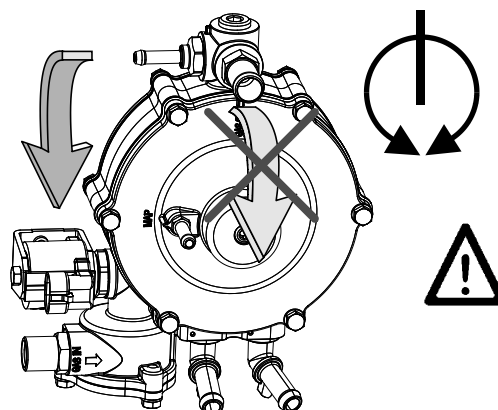

fig.r2
- Not to install the regulator upside down (adjuster screw face down, see fig. r2). Other than that, there are no particular restrictions about which way the regulator faces. If possible, it makes life less complicated if the gas joints and regulator screw are easily accessible for maintenance work;